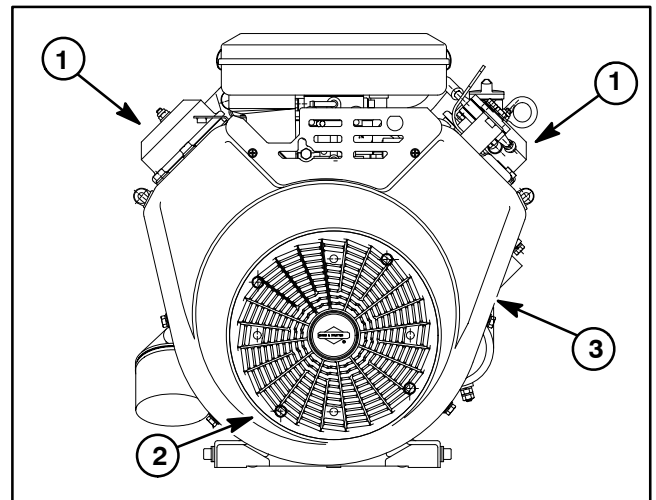

Figure 2
3. Clean rotating screen and blower housing of dirt and debris (Fig. 2).